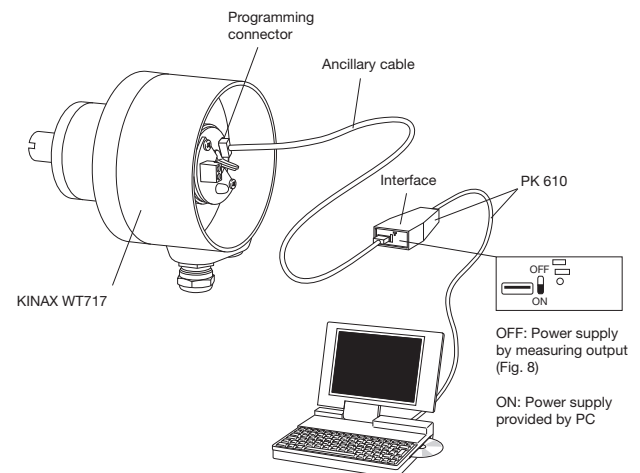
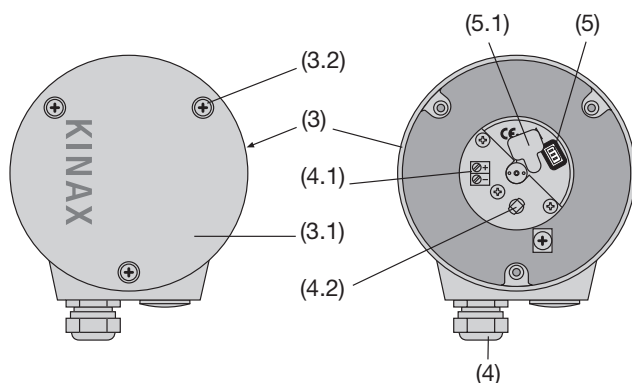

Fig. 4
Fig. 6. Rear (3) with terminals (4.1) and cable glands (4).
1. Remove the cover (3.1 in Fig. 6). Remove the rubber cover (5.1) to gain access the programming connector (5), (see section “8.1 Connecting transmitter”). Connect the KINAX WT 717 to the programming device according to Fig. 4. Start the 2W2 configuration software. If necessary, configure the device with the required measuring range data.